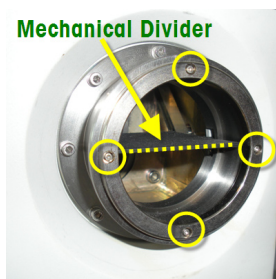

Figure 1: Old retaining ring on SIM (no pin-hole)
- Verify that the SIM on your system has a mechanical divider (**Figure 1**) and order one, if necessary (see table on reverse side of this sheet).